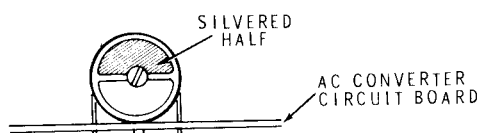

Figure 1-2
- ( ) Adjust each of these trimmers so the silvered half of each plate is positioned as shown in Figure 1-2. This centers the capacity of each trimmer within its range.